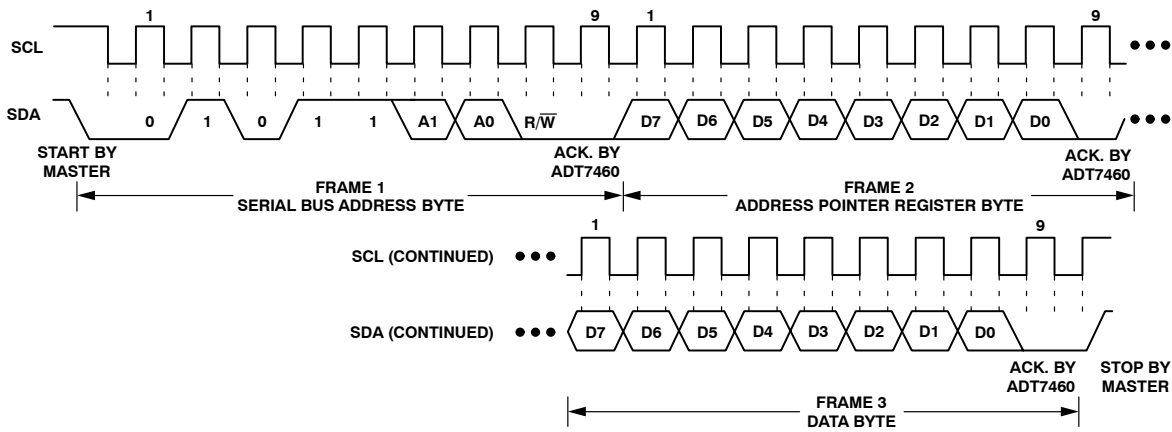
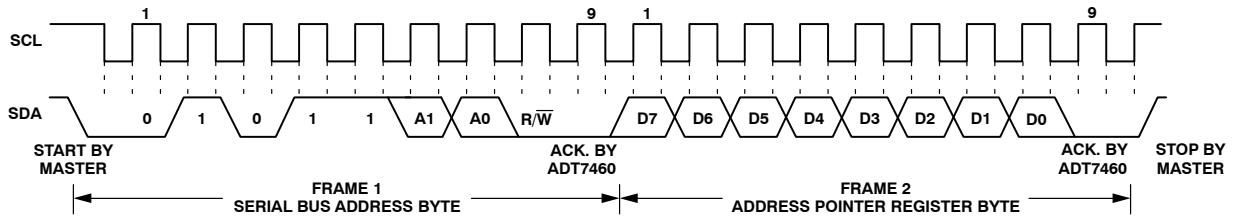
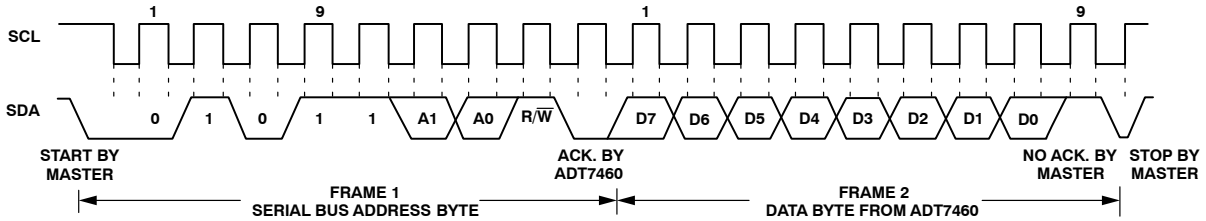

Figure 17. Writing a Register Address to the Address Pointer Register, then Writing Data to the Selected Register
Figure 18. Writing to the Address Pointer Register Only
Figure 19. Reading Data from a Previously Selected Register
This is illustrated in Figure 17. The device address is sent over the bus followed by $\overline{\text{R/W}}$ being set to 0. This is followed by two data bytes. The first data byte is the address of the internal data register to be written to, which is stored in the address pointer register. The second data byte is the data to be written to the internal data register.
1. If the ADT7460's address pointer register value is unknown or not the desired value, it is first necessary to set it to the correct value before data can be read from the desired data register. This is done by performing a write to the ADT7460 as before, but only the data byte containing the register address is sent because data is not to be written to the register. This is shown in Figure 18. A read operation is then performed, consisting of the serial bus address, R/W bit set to 1, followed by the data byte read from the data register. This is shown in Figure 19.
2. If the address pointer register is known to be already at the desired address, data can be read from the corresponding data register without first writing to the address pointer register, so Figure 18 can be omitted.
In Figure 17 and Figure 19, the serial bus address is shown as the default value 01011(A1)(A0), where A1 and A0 are set by the address select mode function previously defined.